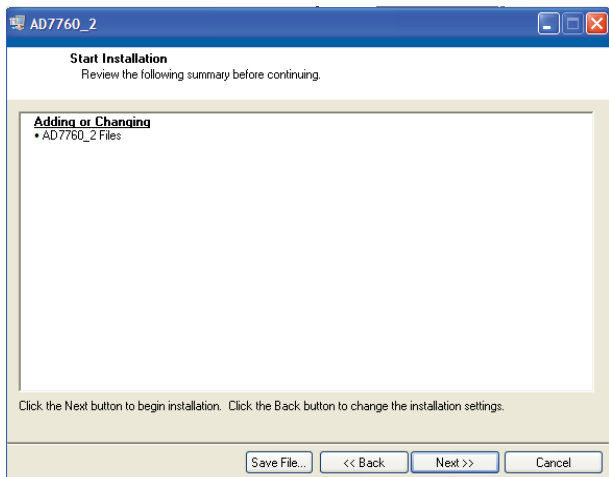

Figure 5. Install Steps
4. To start the installation, click **Next** as shown in Figure 5. This window shows the installation actions being taken.